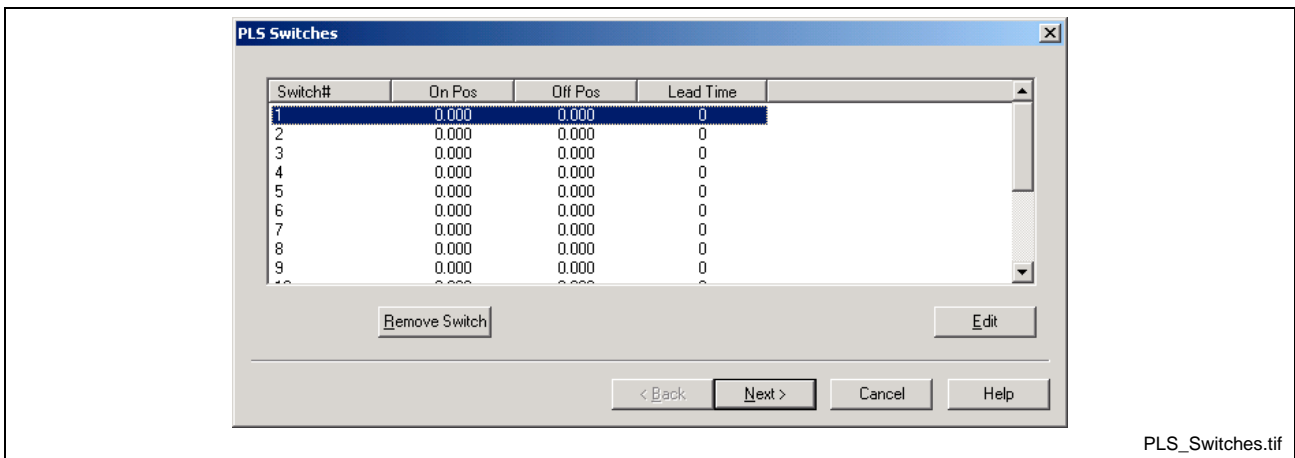

Fig. 8-7: PLS Switches Window
3. From the *PLS Switches* window in Fig. 8-7. Assign a switch's On/Off position and lead time by double clicking on the desired switch number or highlight the switch number and press the **Edit** button.